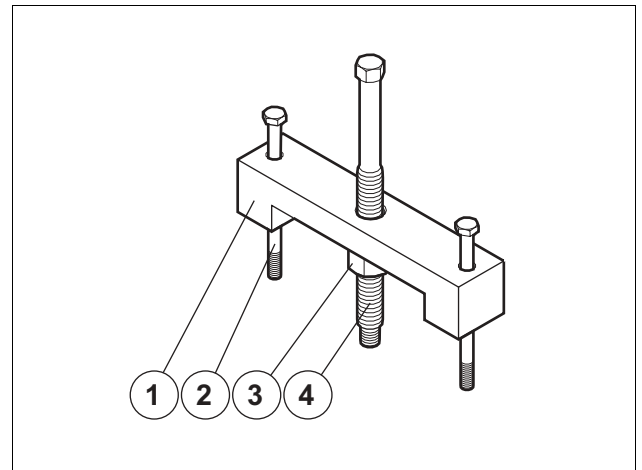

Fig. 32 Puller P/N 0696167
Note! Never hammer or pry on saw motor when assembling or disassembling, always use Puller P/N 0696167 (See Fig. 32.) which is designed especially for this purpose. Bearings in the saw unit and the saw motor can easily be damaged if care is not taken.
3. Assemble the puller according to the following figure. See Fig. 32.
5. Remove the fasteners (3), 16 pcs. use a 6 mm Allen key.
6. Remove the fasteners (5), 6 pcs. use a 10 mm Allen key.
7. Remove two of the fasteners (4) for the tension device (1), and assemble the hex hd. screws on the puller to these holes.
9. Use tool P/N 0704040 to hold the puller bolt (2) still, while turning the nut (3) counter clock wise with a wrench size 24mm to remove the saw motor. See Fig. 32.